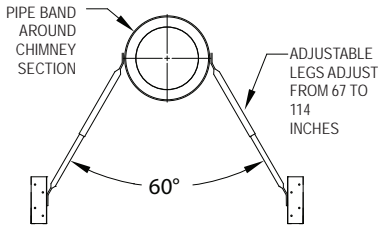

Figure 16
the chimney by setting the female end of the Cap onto the male end of the last chimney section. Secure the Cap by using (6) sheet metal screws provided. Do not push down from the top portion of the cap as this may damage the cap. Push from the lower section of the Cap if needed. The Chimney Cap can be removed for chimney cleaning as described in the Chimney Maintenance section of the instructions. Use an Extended Roof Bracket if the chimney extends more than 4 feet above the roof (**Figures 16 & 17 in the Extended Roof Bracket section**).
**2. Attach the Legs:** The Adjustable Legs of the assembly will adjust from 67" to 114". Secure one end of the Legs to the Pipe Band using the nuts and bolts included (1 per Leg). Position the Adjustable Legs so they form approximately a 60° angle with the chimney, and with each other (*Figures 16 and 17*). Be sure that there is at least 3" of overlap between the top and bottom halves of the Adjustable Leg to ensure a secure fit. In order to secure Legs in proper position, there is a hole provided in the outer leg where the outer and inner halves overlap. Use a 1/4" drill bit to drill through the inner leg at that location. Use the nut & bolt provided to pin the Adjustable Legs in position.